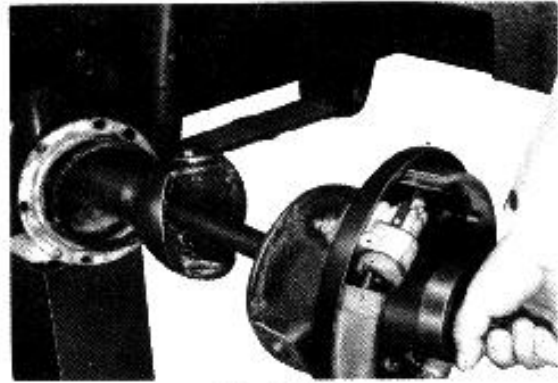

Fig. 11-7
6. Withdraw the front axle shaft together with the associated parts as shown in the Fig. 11-7.